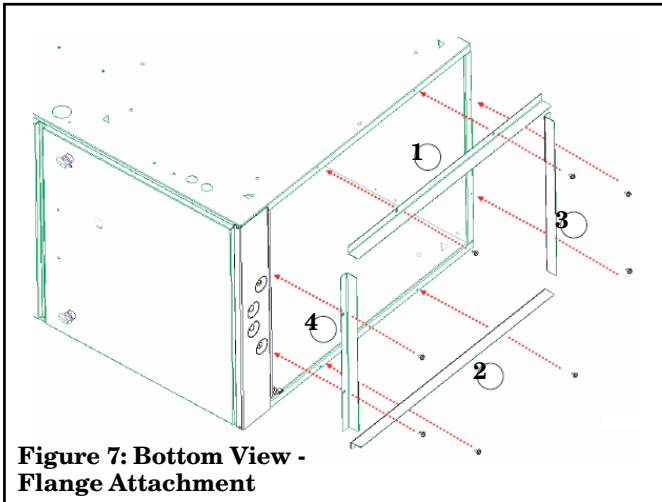

Figure 7: Bottom View - Flange Attachment
2. Attach flanges 1, 2, and 3 (Fig 7) to the unit using the factory provided screws and the pre-drilled holes in the wrapper. Flanges 1 and 2 are the 23.5" flanges that are generic to all units. Flange 3 will be one of two short flanges and the length of which is dependent on the cabinet size.
3. Attach flange 4 (Fig 7) to the duct work (Flanges should be inside duct work). Flange 4 is the remaining short flange.